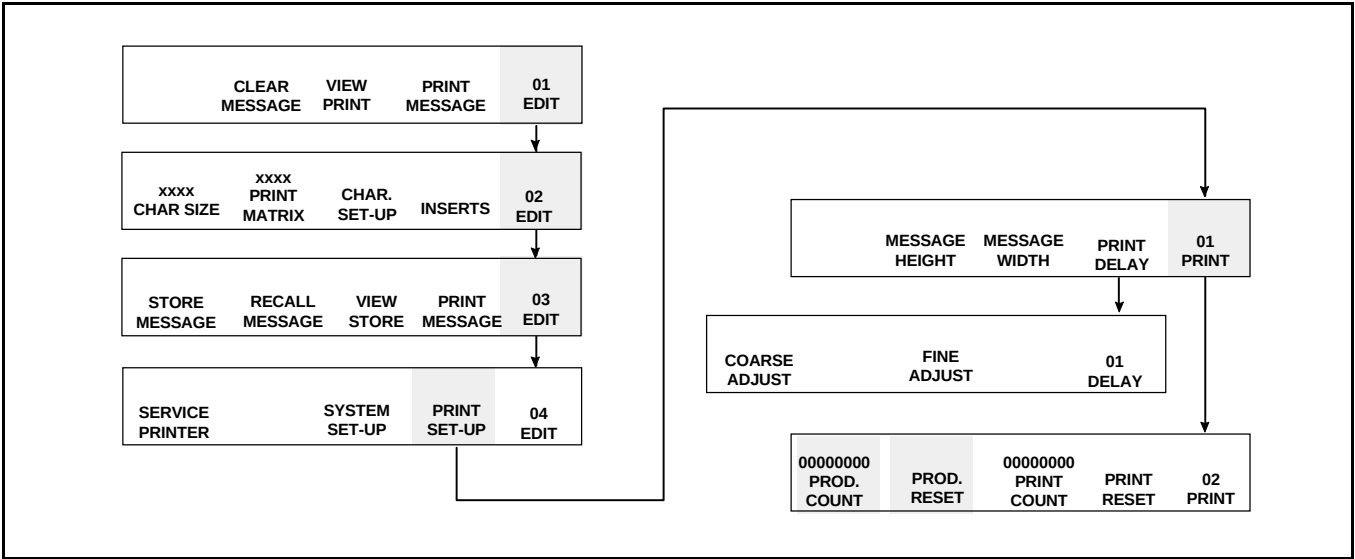

Figure 7-3. Accessing Frame <02 PRINT>
1. Begin in Frame <02 PRINT>. Refer to Figure 7-3.